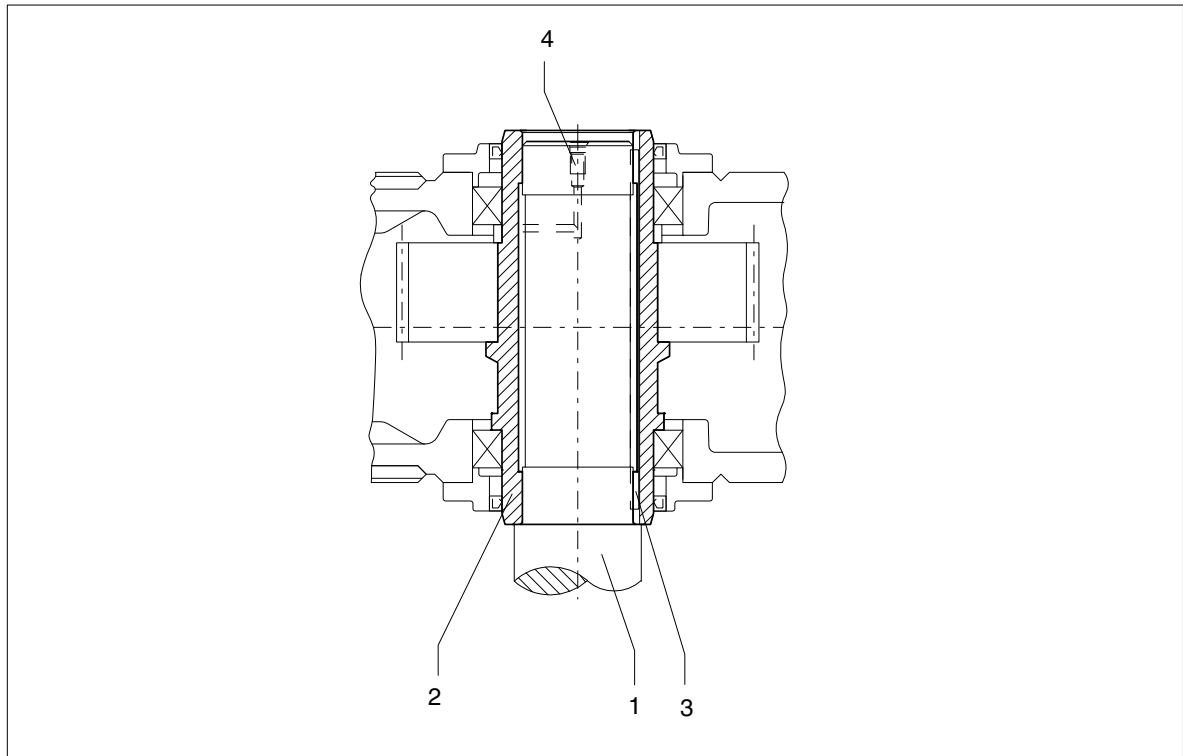

Fig. 55: Hollow shaft with parallel keyway, preparation
To facilitate demounting (see item 6.5.3), we recommend providing a connection for pressure oil on the end of the driven-machine shaft end, which is drilled through to the hollow-shaft recess (see figure 55). This connection may also be used for supplying rust-releasing agent.
- If frictional corrosion has occurred on the seating surfaces, rust-releasing agent may be used to facilitate forcing off the gear unit. The rust releaser can be injected through the pressure-oil connection (see figure 55), using a pump.